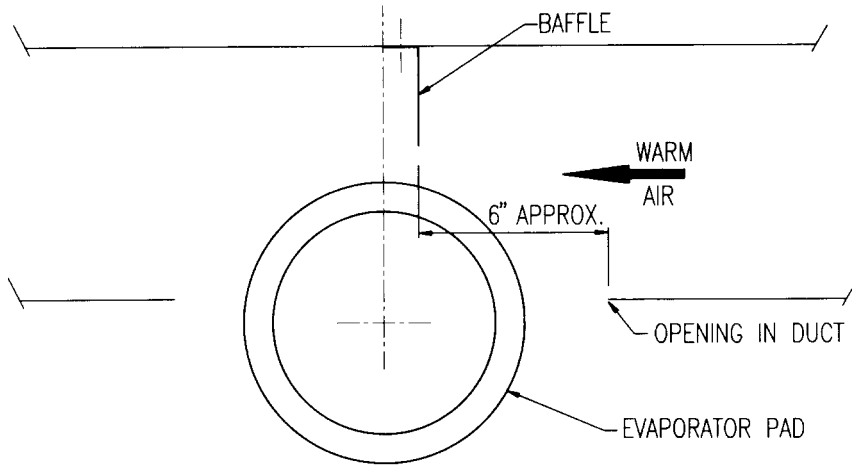

FIGURE 15
2. Install the baffle in the inside of the duct as shown in Figure 15. First, mark the two holes on the top inside of the duct, by holding the baffle in place about 6" from the side of the opening as shown in Figure 15, then drill two holes $\frac{7}{64}$ " dia. through the top inside of the duct and attach with two #8 sheet metal screws provided.